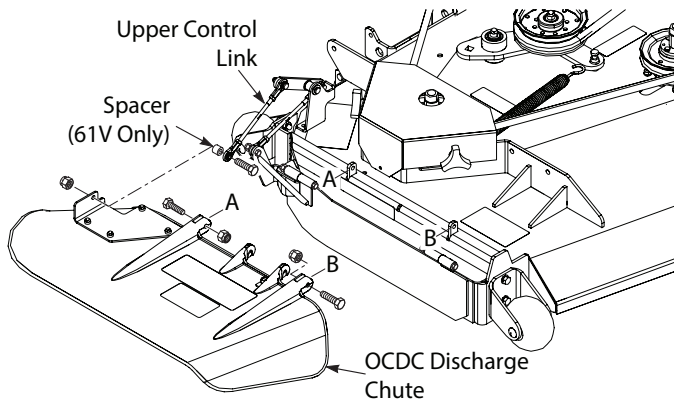

Figure 3-28. OCDC Discharge Chute Installation
7. Install the OCDC discharge chute to the cutter deck. Secure using two (2) 5/16-18 x 1-3/4" bolt and two (2) 5/16-18 elastic stop nuts. See Figure 3-28, Page 20.
9. Secure the upper control link to the OCDC discharge chute using one (1) 5/16-18 x 1-1/2" bolt and one (1) 5/16-18 elastic stop nut. See Figure 3-28, Page 20.